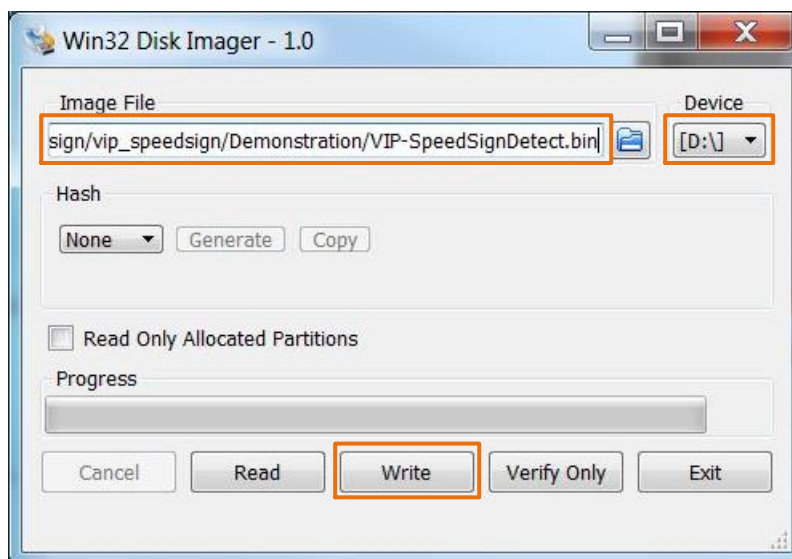

Figure 4.10. Win32 Disk Imager
4. In Win32 Disk Imager, select the image file `~/Demonstration/VIP-SpeedSignDetect.bin` as shown in Figure 4.10.